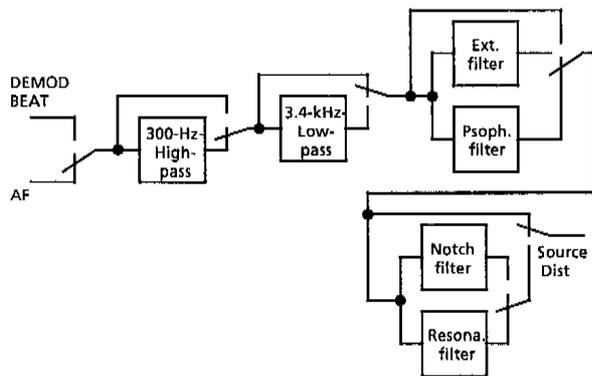

Fig. 2.4-20 Signal paths
- DIST: When this softkey is activated, the signal path SOURCE DIST shown in Fig. 2.4-20 will be applied to the scope.